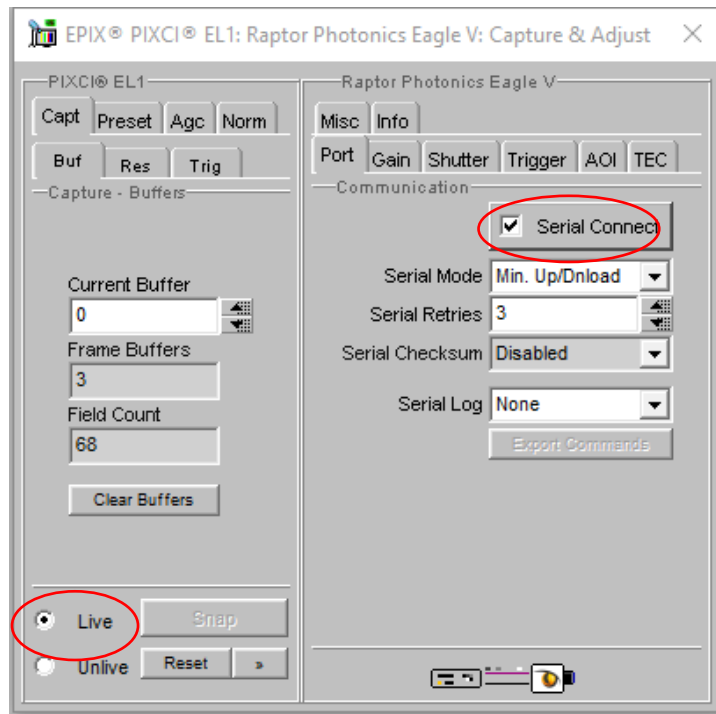

Figure 7: Image Capture
10. Check the Serial Connect box (to establish serial communication to the camera). This should contain a tick (as circled in Figure 7).
11. Check the live button (as circled in Figure 7).